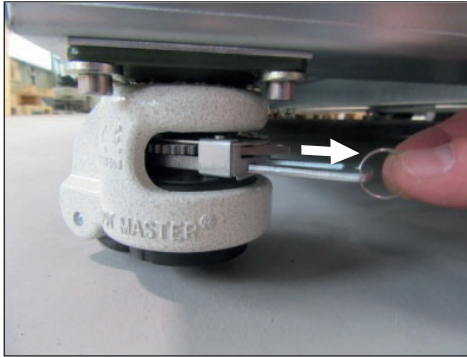

Fig. 9 To unlock the mechanism, pull out the ratchet lever
1. To unlock the adjustment mechanism, pull out the ratchet lever on the ring (Fig. 9).